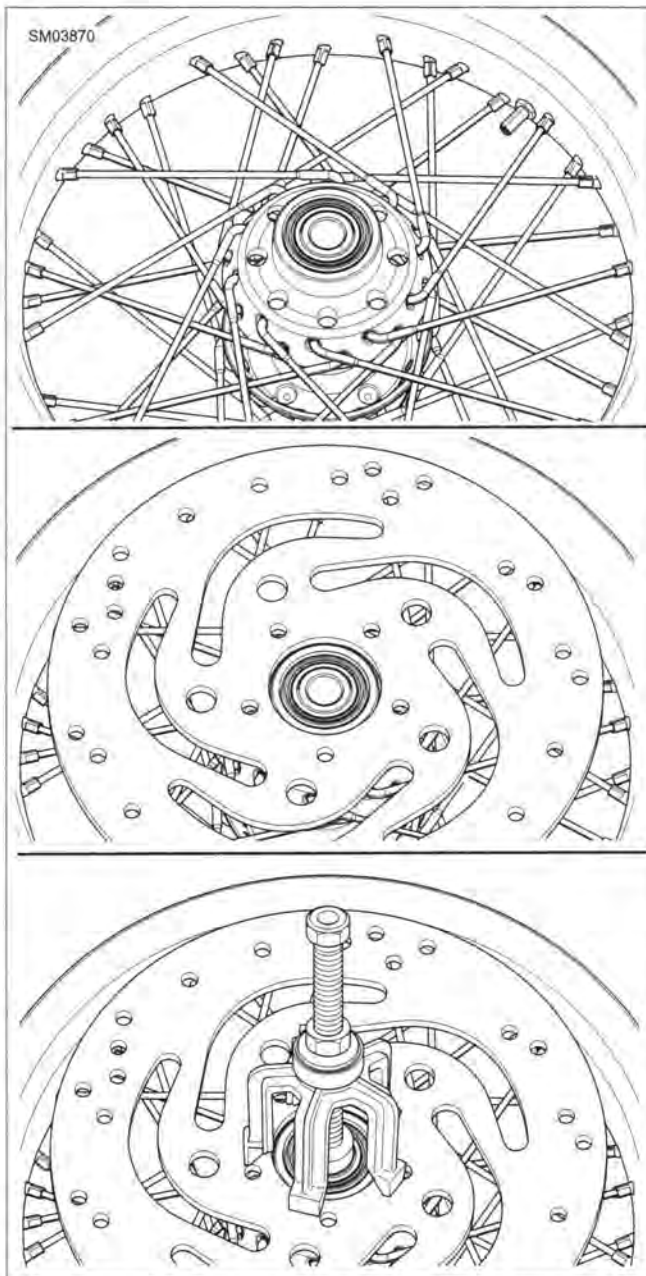

Figure 2-19. Brake Disk as Puller Aid
- See Figure 2-19. Some wheel hubs may not provide adequate support for the puller bridge. In these cases center a used brake disc over the hub to support the puller bridge while removing the bearings.